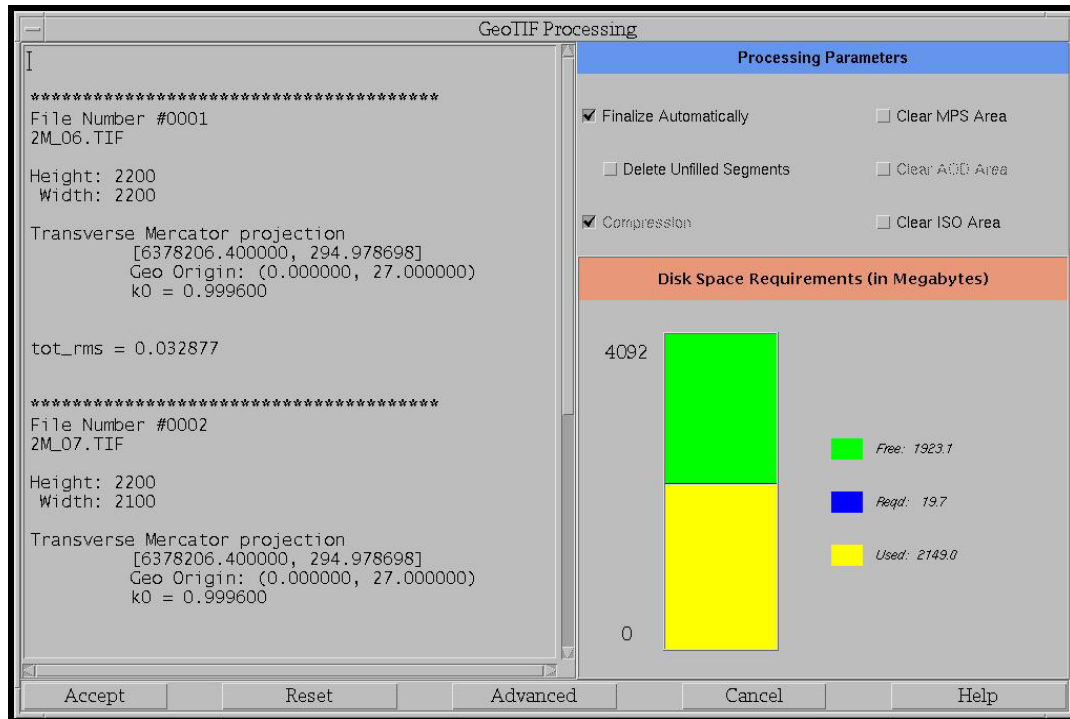

Fig. 42 – GeoTIF Processing Window
Once you agree to the previous information window, or if no conflicting color palette exists on the MMC system, then the **GeoTIF Processing Window** appears (Fig. 42).
- a) The **GeoTIF Processing Window** (Fig. 42) displays information about disk usage, processing options, and advanced processing options.